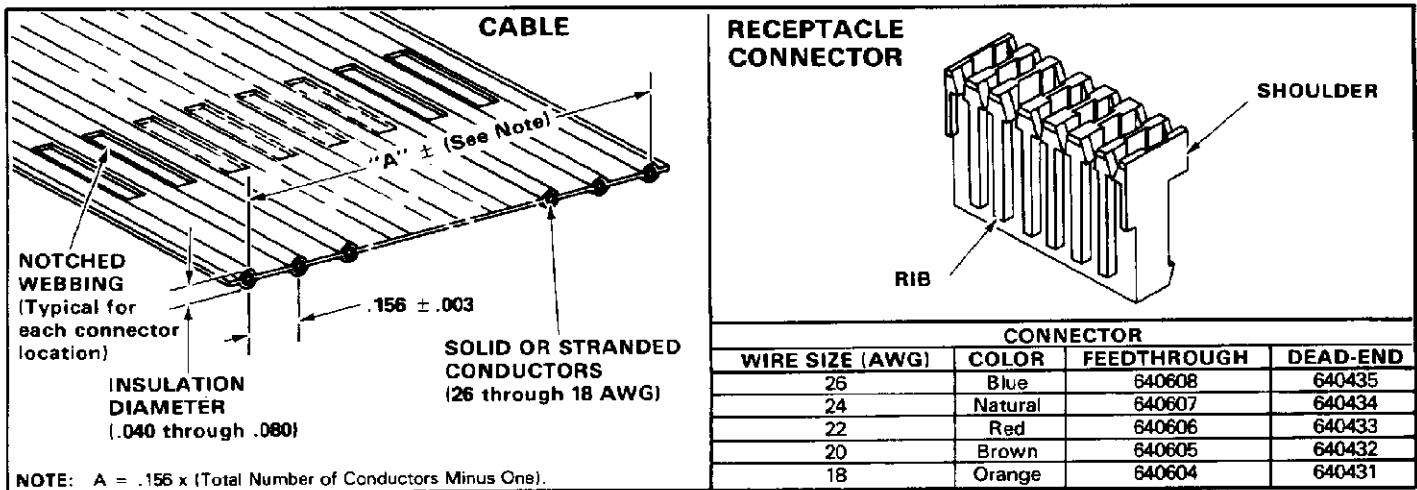

Fig. 2
The tooling assembly will terminate ribbon cable with No. 26 through 18 AWG solid or stranded conductors to receptacle connectors. See Figure 2 for the recommended cable dimensions and connector base part numbers.
This completes setup for termination of all connectors listed in Figure 2.
1. Determine the number of contact positions needed for your application, then refer to Figure 2 for cable and connector requirements.
3. Determine cable termination position and remove webbing between conductors at this position with AMP Notching Tool 59835-1. See Figure 2.